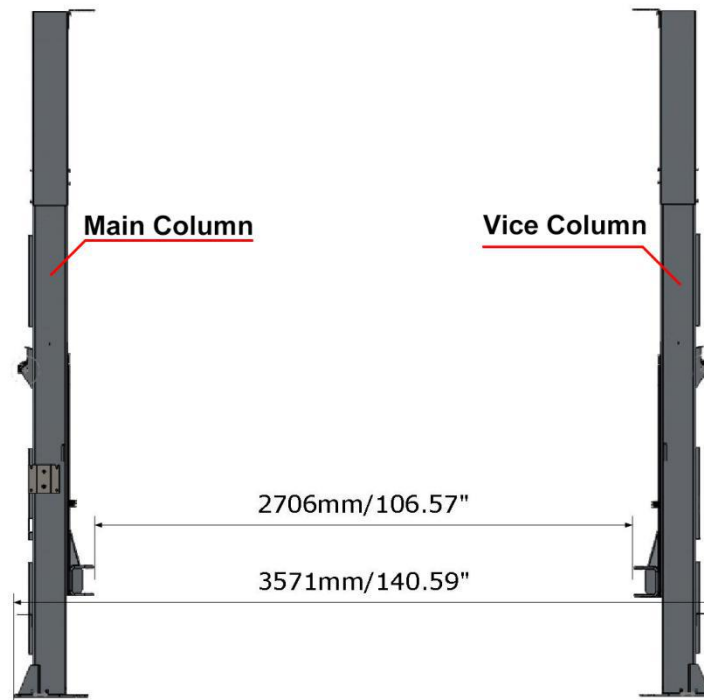

Fig 7 Symmetric installation position columns
- 1.Symmetric Installation (Fig 7)